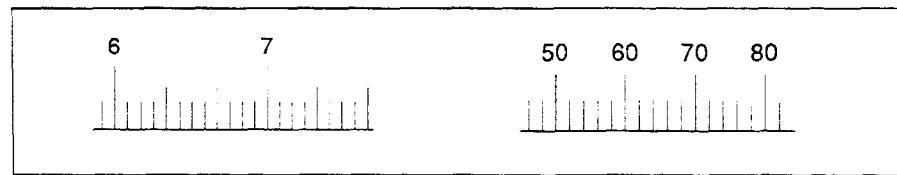

Figure 4-10
6. Rotate the circle until the proper coordinates line up with the R.A. indicator. The R.A. setting circle should rotate freely. The R.A. setting circle has a marker every four minutes with each hour labeled (see figure 4-10).
5. Rotate the DEC circle until the proper coordinate lines up with the DEC indicator. The DEC setting circle is scaled in degrees with a marker every two degrees (see figure 4-10).